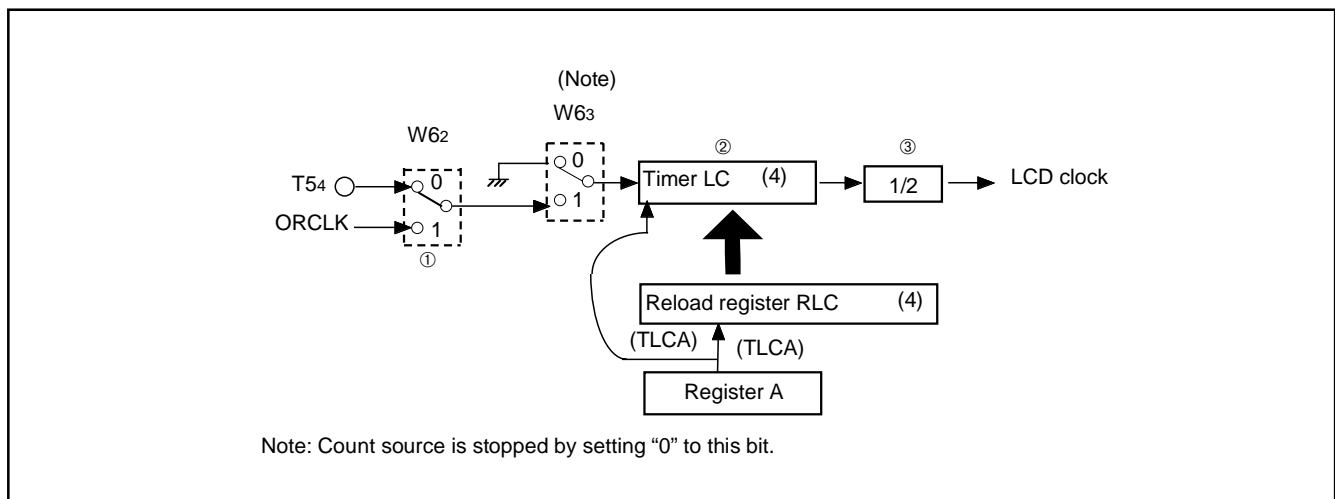

Fig. 42 LCD clock control circuit structure
(2) LCD clock control
The LCD clock is determined by the timer LC count source selection bit (W62), timer LC control bit (W63), and timer LC. Accordingly, the frequency (F) of the LCD clock is obtained by the following formula. Numbers (①) to (③) shown below the formula correspond to numbers in Figure 42, respectively.